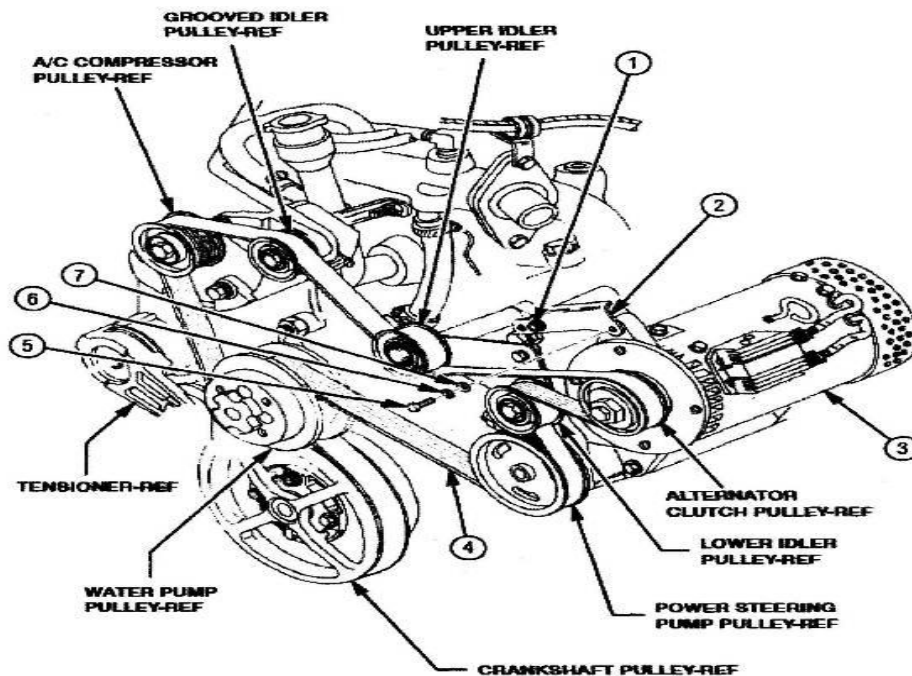

Figure 42
(5) Remove screw (5), lock washer (6), and washer (7) from alternator adjusting bracket (2) and 400 Amp Alternator (3), as shown in **Figure 42**.
(6) Route existing serpentine belt (4) on pulleys as shown in **Figure 42**.
(7) Install screw (5), lock washer (6), and washer (7) on alternator adjusting bracket (2) and 400 Amp Alternator (3). Tighten screws (1 and 5) to 33-41 foot pounds (45-56 N-m), as shown in **Figure 42**.